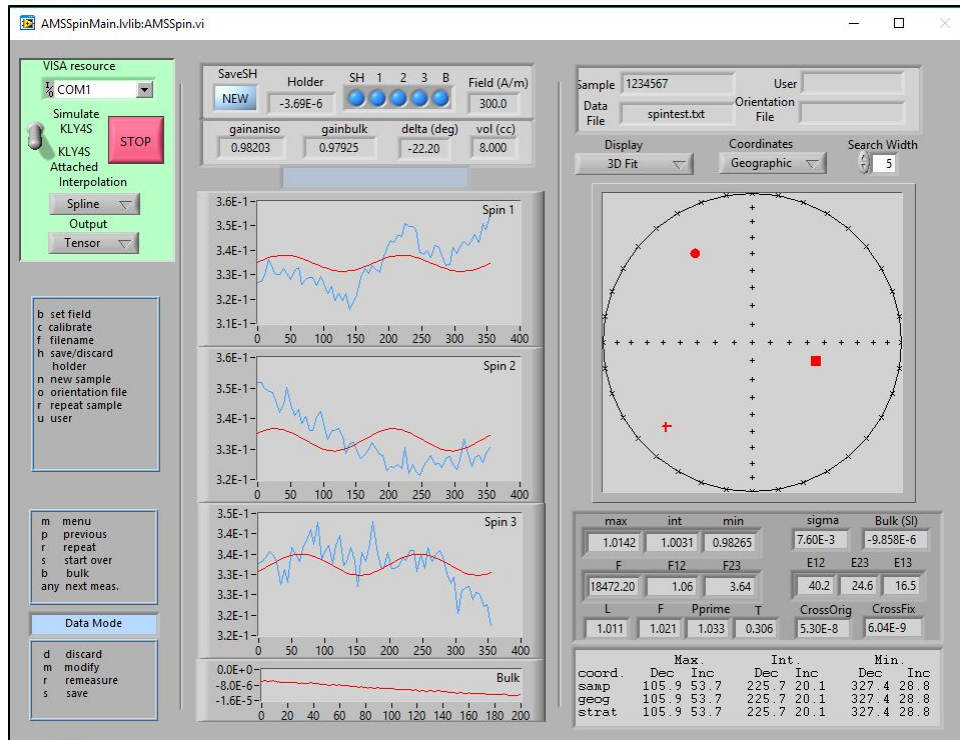

Figure 5a. Data Mode window of AMSSpin.
- When the bulk susceptibility measurement is complete, the program will automatically move you to the third menu, Data Mode (*Figure 5a*).